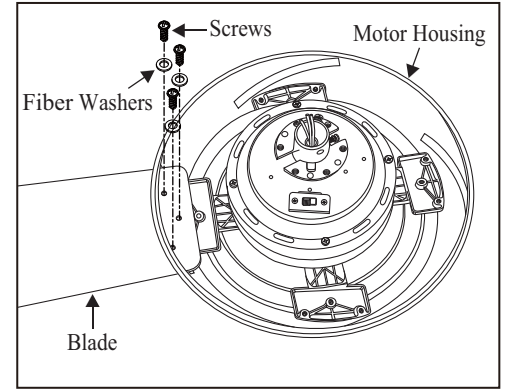

Figure 6
2. Insert the blade through the slot on the motor housing. Align holes and fasten the blade to the motor with provided screws. (fig. 6)